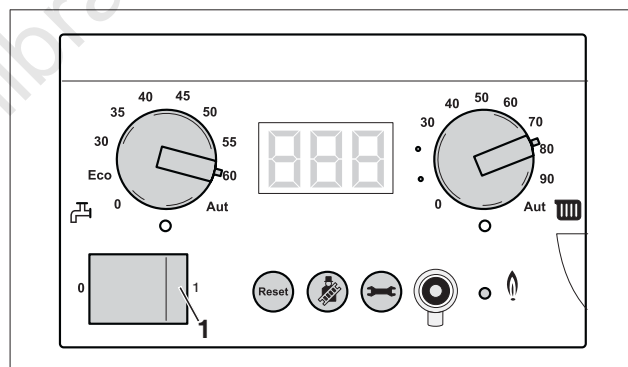

fig. 109 BC10 basic controller
- Switch off the heating system by pressing the mains switch of the BC10 (fig. 109, **item 1**).
- Switch off the heating system by pressing the mains switch of the BC10 (fig. 109) .